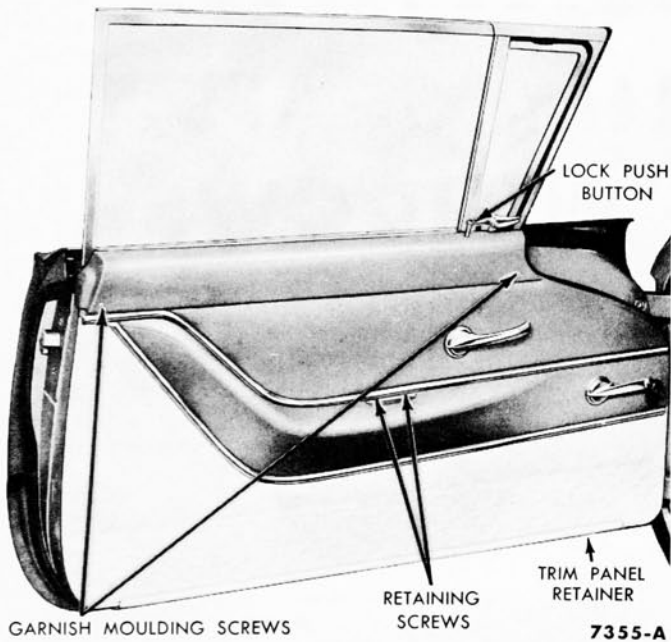

FIG. 1—Door Trim Panel
1. Remove the two arm rest retaining screws (Fig. 1), the door interior handle(s), and the retaining clips.
2. Remove the lock push button and garnish moulding (Fig. 1). Then, pry the trim panel retaining clips out of the door inner panel with a putty knife or screwdriver, and remove the trim panel from the trim panel retainer.